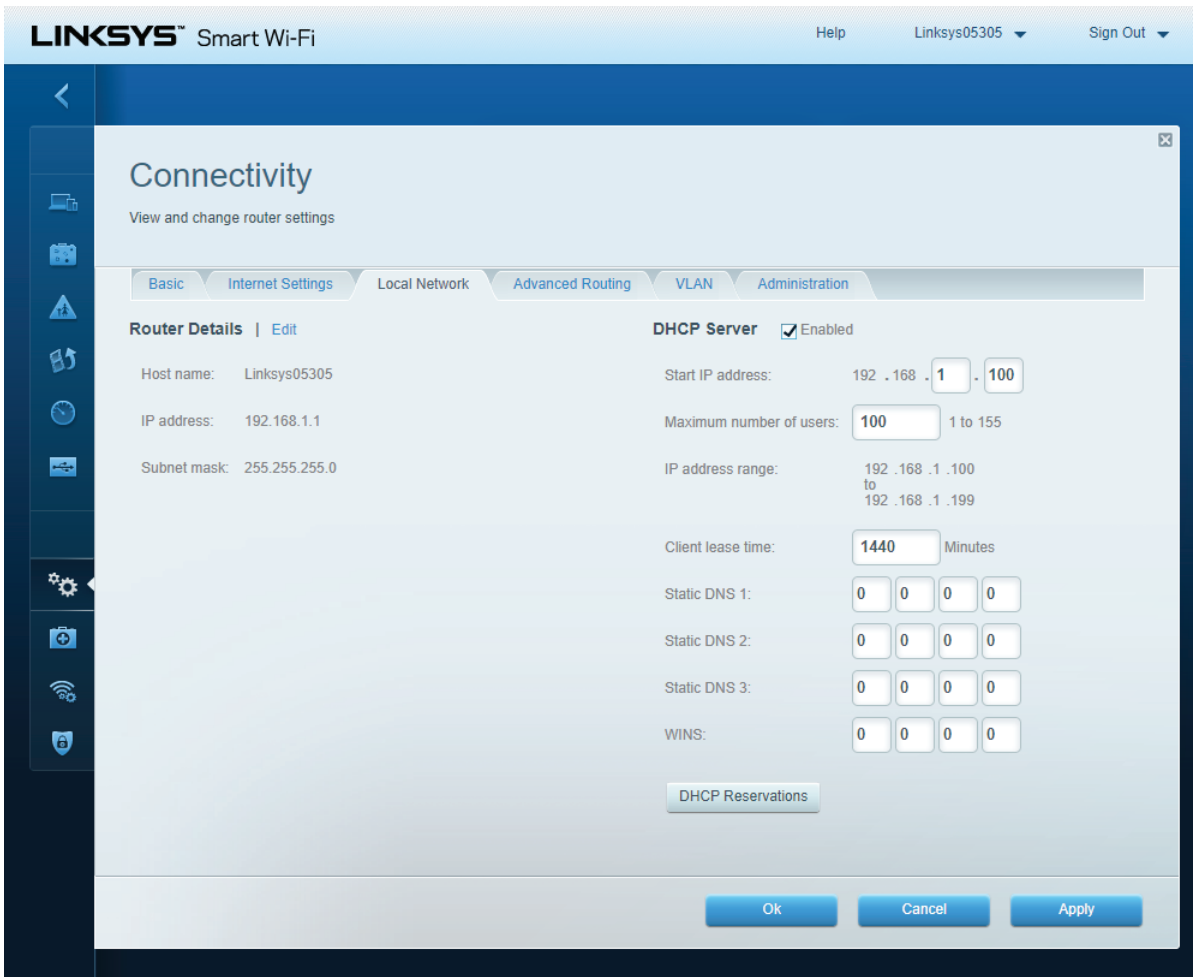

Figure 58 – Local Network tab
3. In the **Local Network** tab, verify that the router is set for DHCP (Figure 58).